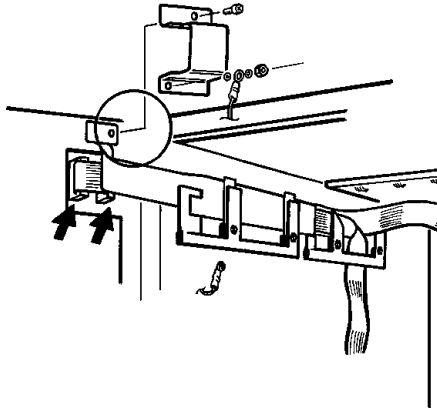

Figure 4.10.1a Earth lead and ribbon cable connectors
- b. Remove the earth lead and the cover (if fitted) (figure 4.10.1a), retaining the fixings for later re-assembly.